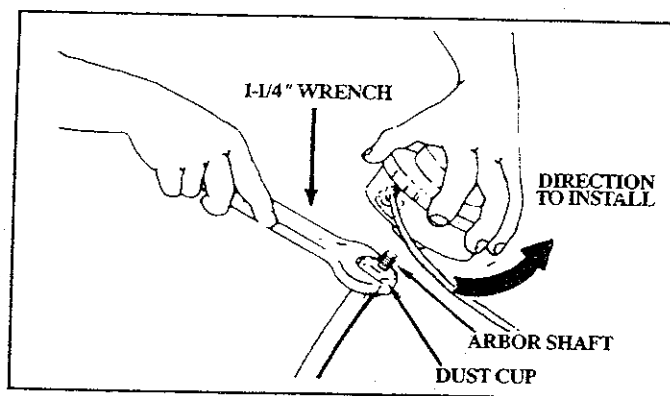

Figure 2
2. TRIMMER HEAD — Figure 2
- Hold the Dust Cup with a wrench to keep the Dust Cup from turning. Figure 2.
- Thread the Trimmer Head clockwise (from the engine end) onto the Arbor Shaft, against the Dust Cup, and as tight as possible with your hand. Figure 2.